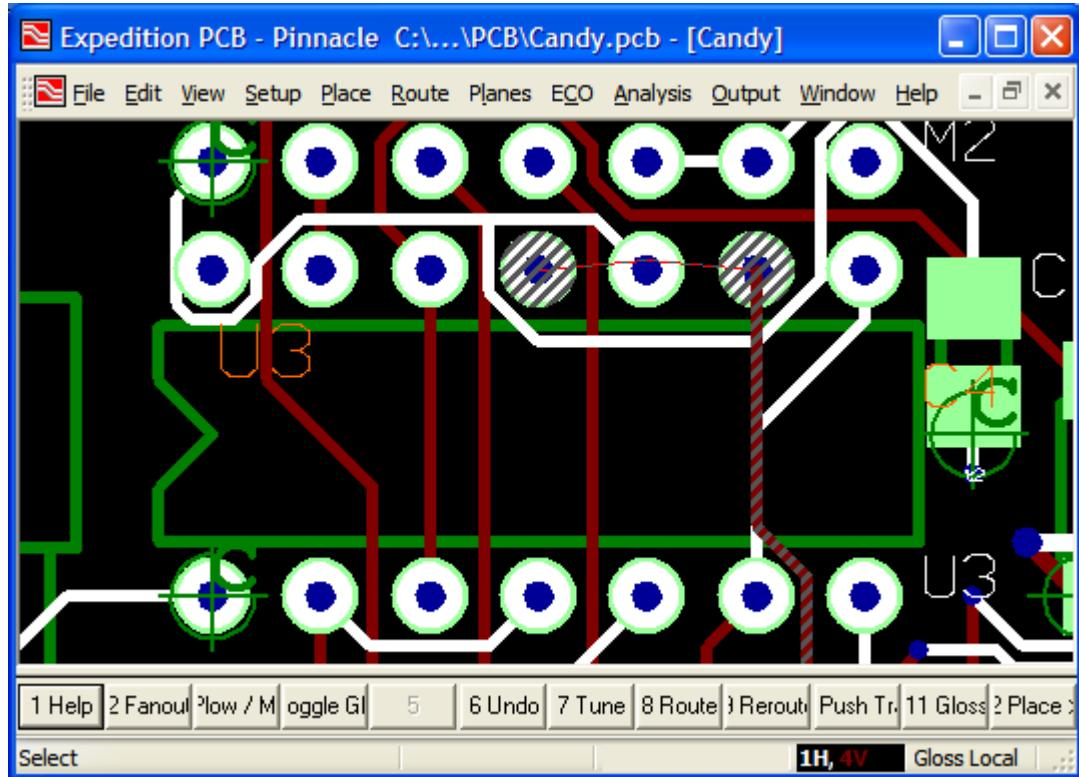

Figure 12-15. The trace connecting pins U3-11 and U3-9 has been deleted.
- 4) Delete this trace, resulting in the design appearing as shown in Figure 12-15.